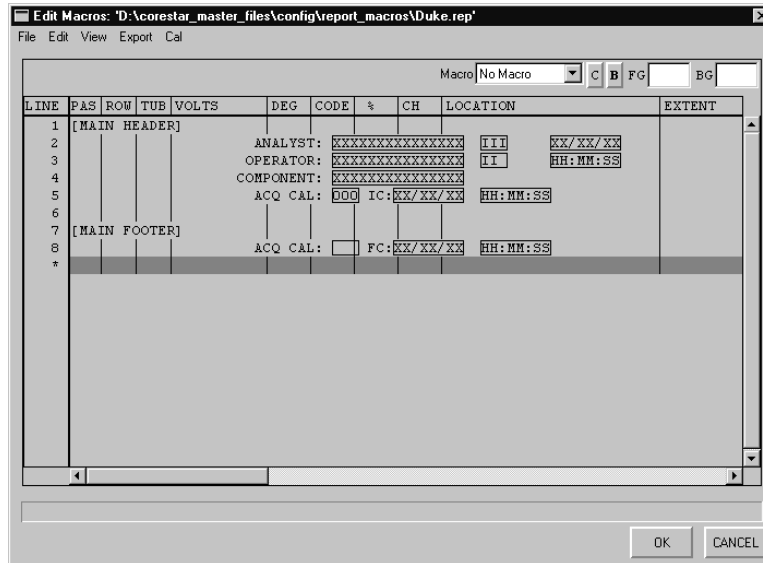
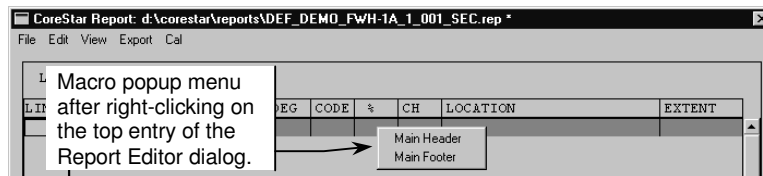

Figure 3-58. Macro Dialog
Figure 3-59. Macro Popup on Report Editor
- ❑ **REPORT > Edit > Macros ...**: Selecting **Macros ...** from the **Edit** menu displays the dialog shown in Figure 3-58. Although this dialog appears similar to the **Report Editor**, its purpose is not the same. This dialog is used to create automated report headers, footers, shift change entries, probe entries, etc. These automated functions are referred to as *macros*. Figure 3-58 shows two (2) example *macros*, one named *MAIN HEADER* and the other named *MAIN FOOTER*. As shown in Figure 3-59, these names appear on a popup menu in the main **Report Editor** (and in the on-screen report) when a **right-click** is executed. Selecting either one from the popup will automatically insert the information specified for that *macro* as shown in Figure 3-60.